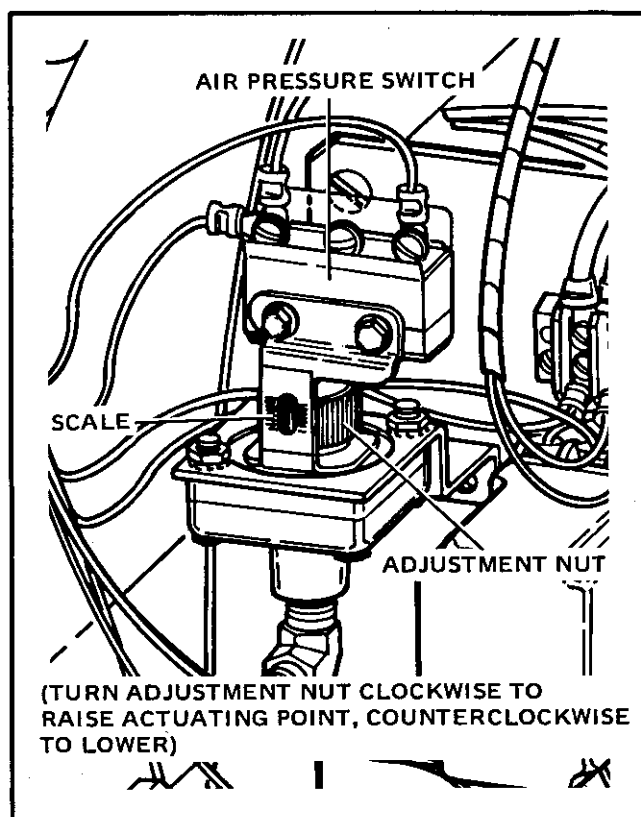

Figure 5-5. Air Pressure Switch Adjustment
- (1) Observe the pressure setting on the air pressure switch scale (see figure 5-5).
- (2) Turn the self-locking type adjustment nut clockwise to raise the actuating point and counterclockwise to lower.